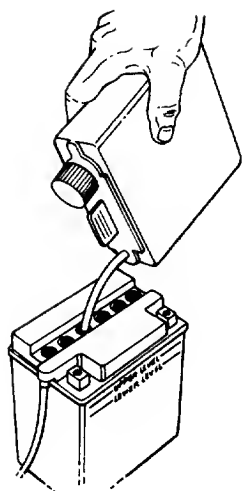

FIGURE 11.
5. Fill each battery cell slowly and carefully to the **UPPER LEVEL** line marked on battery. See figure 11. Use caution as the acid level will rise rapidly after the bottom of the cell is filled.